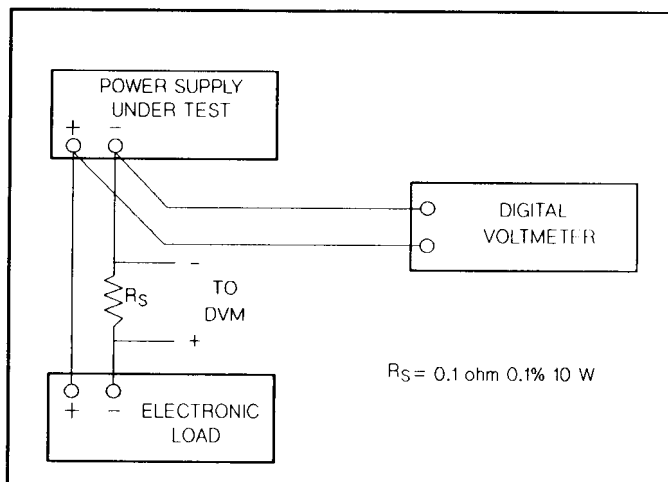

Figure A-2. Basic Test Setup
- Connect the test equipment as shown in Figure A-2. Operate the electronic load in constant current mode and set its current to the full rated value of the power supply (E3610A: 3.0 A, E3611A: 1.5 A, E3612A: 0.5 A). Input off the electronic load.
- Connect the test equipment as shown in Figure A-2. Operate the electronic load in constant current mode and set its current
- a. Connect the test equipment as shown in Figure A-2, but replace the DVM with the oscilloscope. Operate the electronic load in constant current mode.
- Connect the DVM across R_s in Figure A-2. Operate the electronic load in constant voltage mode and set its voltage to the full rated value of power supply. Input off the electronic load.
- Connect the DVM across R_s in Figure A-2. Operate the electronic load in constant voltage mode and set its voltage to the full rated value of power supply.